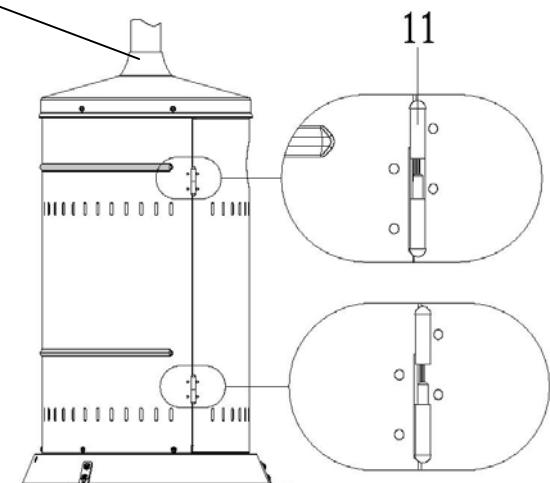

Figure 2
- STEP 7:** Fix the door to housing. (See Figure 2 and Detail Abb. G)